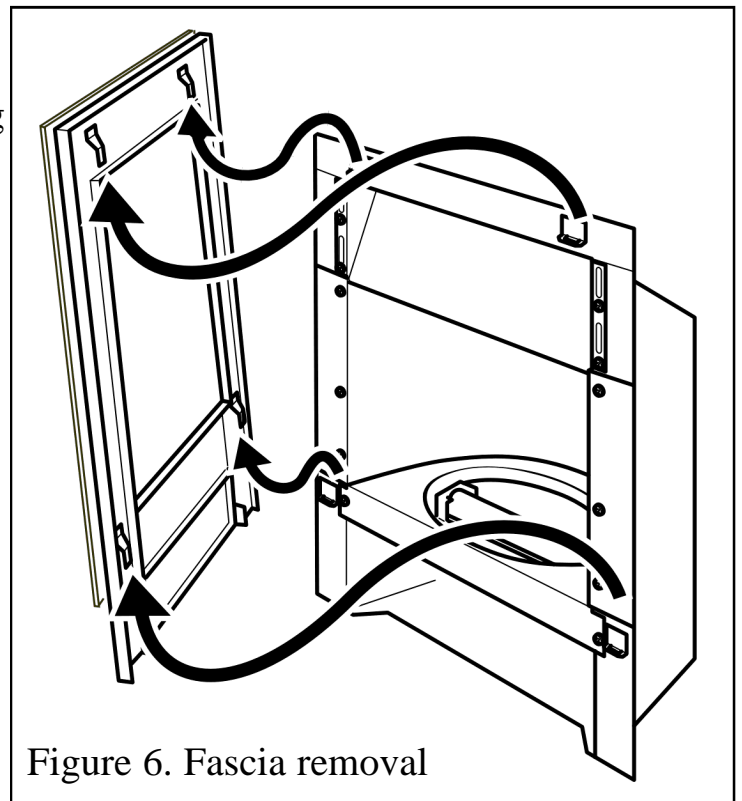

Figure 6. Fascia removal
- Should any soot accumulation become excessive, the fuel effect pieces should be removed from the fire for cleaning. To do this the fascia will have to be removed. Firmly hold the fascia at the sides and lift clear of the hanging brackets (See figure 6)
The fascia is held in place by four retaining plates at the back of the fascia. These slot into four retaining brackets on the hotbox. Firmly hold the sides of the fascia and lift upward and forward (See figure 6). After cleaning / fitting the fuel effect, the fascia can be replaced.